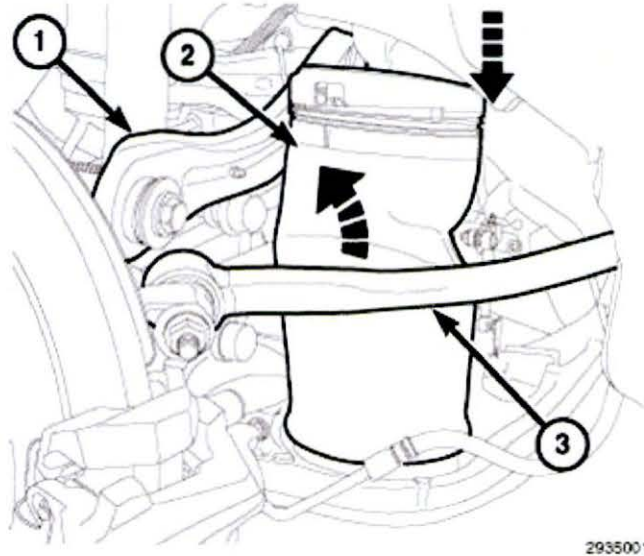

Fig. 2 Air Spring
9. To remove the air spring, push down on the air spring to compress, tilt the top out and lift the air spring from the lower control arm between the tension link and camber link(Fig. 2).
19. To remove the air spring, push down on the air spring to compress, tilt the top out and lift the air spring from the lower control arm between the tension link and camber link (Fig. 2).